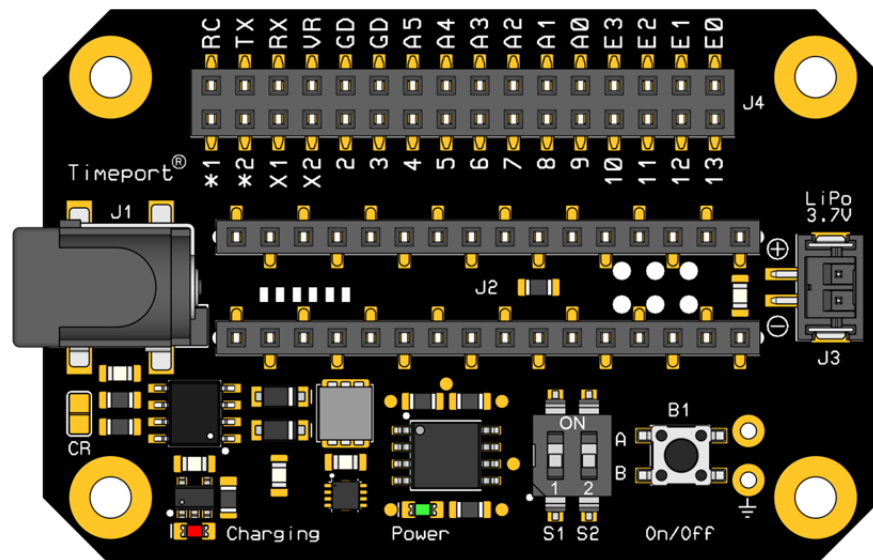
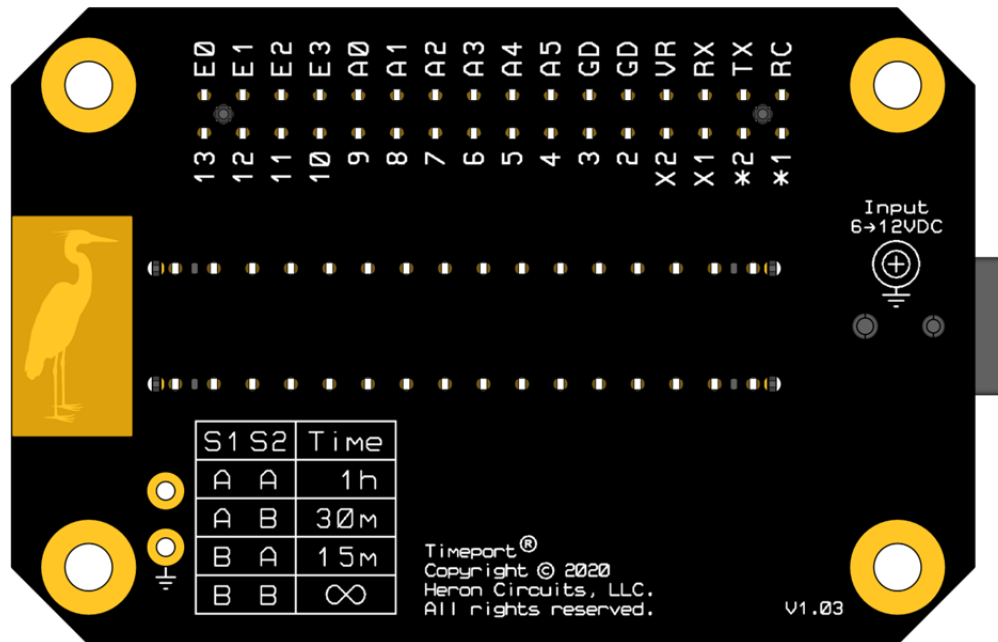

Figure 2 Top View
Figure 3 Bottom View
Jack J1 is a power connector located at the left edge of the printed circuit board as shown below in Figure 2. J1 accepts voltage between +6 to +16 volts direct current (DC) using the same type of power plug that fits most Arduino compatible systems. Voltage into J1 can be connected backwards accidentally without causing damage to the Timeport or the Proboard. The power plug should be a coaxial type with a 2.1 mm inside diameter, a 5.5 mm outside diameter, and a positive center.
The bottom of a Timeport is smooth without any metal protrusions. It includes a printed table of settings for two switches, S1 and S2. The switches can be seen in Figure 2, and the table is shown in Figure 3. The switches S1 and S2 can be used for selecting a power shutdown timing interval. The infinite (∞) setting with each switch in the “B” position means Timeport will stay on without performing any automatic shutdown function. Users can select three other timeout intervals by using the switches, as shown in the table.
Button B1 is visible in Figure 2. It toggles the power state of the Timeport. If it is on, a press of B1 powers off the Proboard and any connected equipment powered by the regulated +5.0 volts DC on the VR pin of J4. If a Timeport is powered off, pressing B1 reactivates power and restarts the shutdown timer.
By default, the charge function will pump up a flat battery at a rate of 100 mA. The rate will taper to zero at the end of a full recharge cycle. A solder jumper marked "CR" controls the charging rate. The CR gold pads can be seen near the lower left corner of Figure 2. If using a LiPo cell with a capacity greater than 0.750 Ah, the CR pads can be jumped with a small blob of solder to increase the charge rate from 100 mA to 350 mA. We recommend always scrubbing the soldered connection with isopropyl alcohol and a PCB cleaning brush in order to remove any flux and prevent chemical corrosion of metal surfaces.